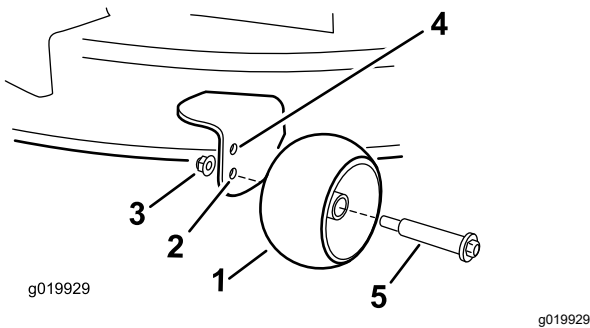

Figure 30
- Upper hole—use this position with the mower deck in the 63 mm (2-1/2 inches) and below the height-of-cut positions (Figure 30).
- Lower hole—use this position with the mower deck in the 76 mm (3 inches) and above the height-of-cut positions (Figure 30).